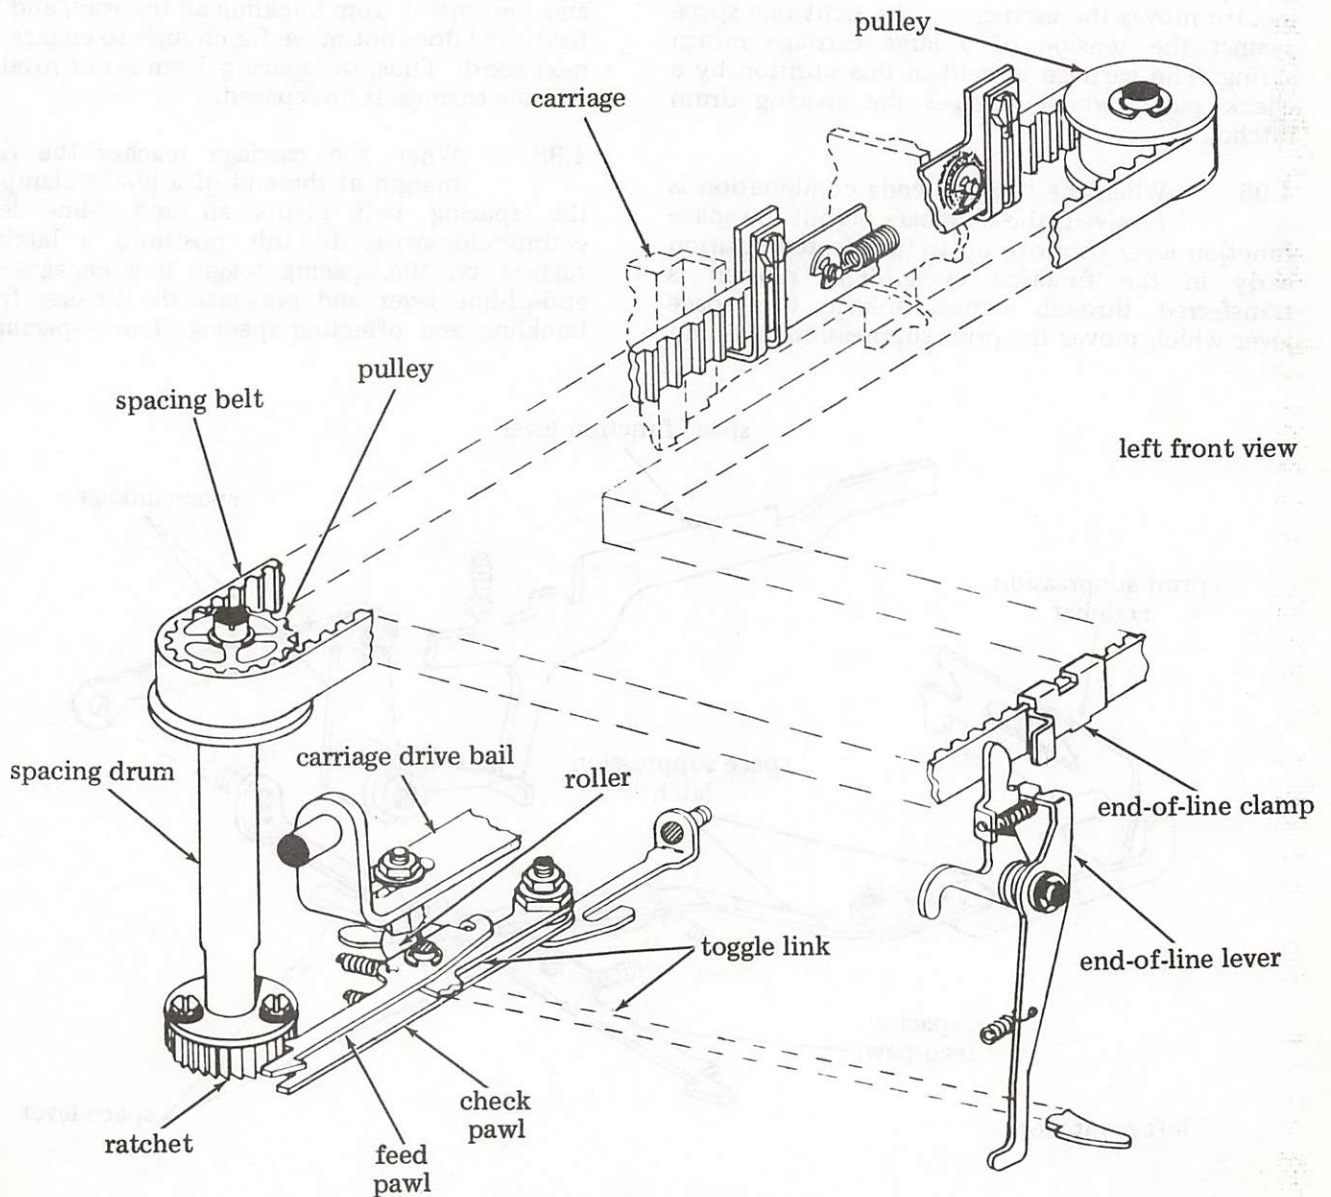

Figure 33 - Spacing Mechanism
4.93 The spacing mechanism (Figure 33) positions the carriage so that the printed characters are horizontally in line on the paper. Each time a character is printed, the carriage is positioned one character to the right. Spacing is suppressed on all functions except "space" when spacing occurs and printing is suppressed. At the end of the printed line, spacing is suppressed and the typing unit overprints. When the "carriage return" function is received, the carriage is returned to the left margin.